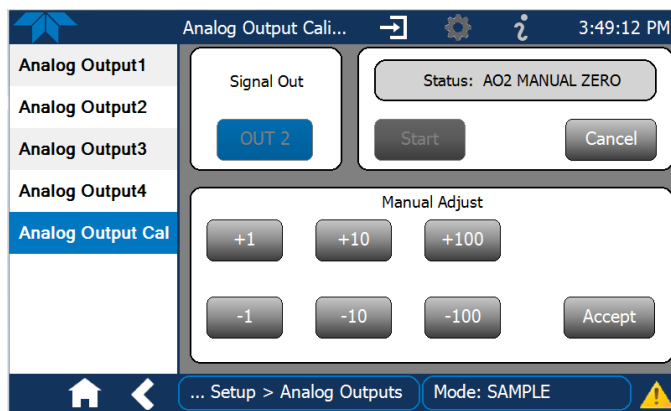
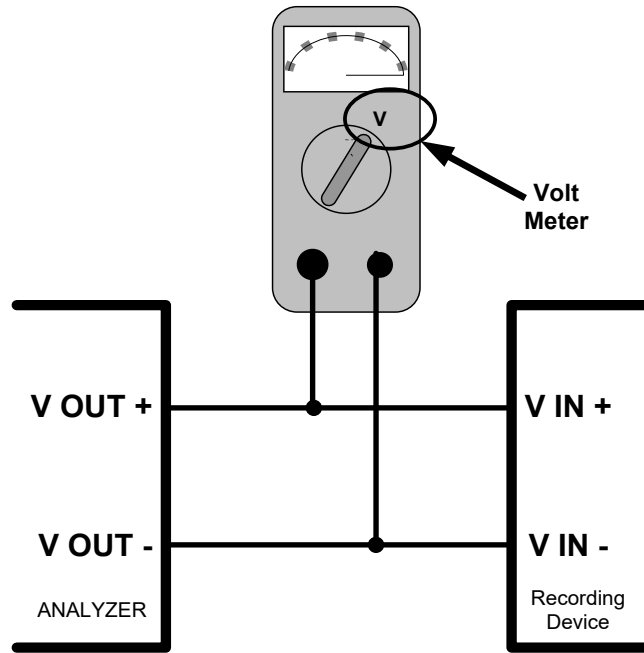

Figure 2-56. Analog Outputs Manual Calibration Screen (AOUT2 Example)
Figure 2-57. Setup for Checking / Calibrating DCV Analog Output Signal Levels
- MANUAL for individual calibration (Figure 2-56) of analog outputs where manual adjustments can be made (the only calibration type allowed when Current is selected for the Range). See Sections 2.5.8.1 and 2.5.8.2 .
It is possible to manually calibrate the voltages by using a voltmeter connected across the output terminals (Figure 2-57) and changing the output signal level in the Manual Adjust field of the Analog Outputs Calibration screen (Figure 2-56). Refer to Table 2-14 for voltage tolerances.